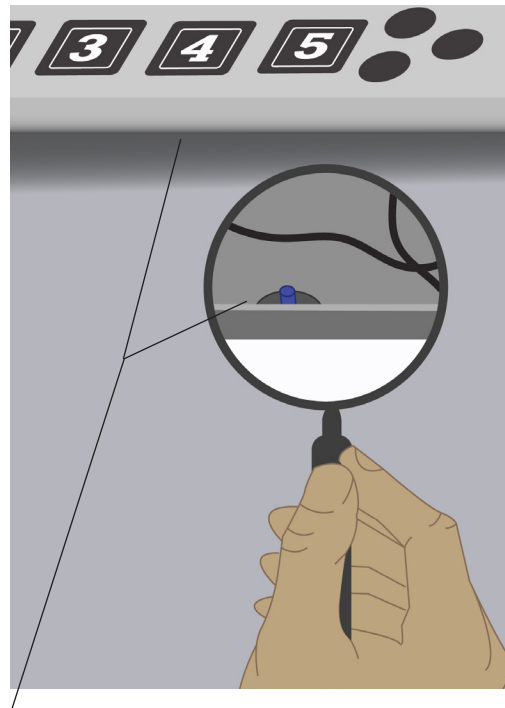

Fig. 15 - Blue button behind key #4. The “Learn” button.
After opening the lower door, reach behind the keypad and you will feel a button behind the number 4 key. You may want to use a small mirror to help you see behind the keypad and locate the small blue button behind the number 4 key (See Fig. 15). This is the “Learn” button.
1. **Press the “Learn” button SIX times.** (Located behind key “4,” see FIG. 15). At first press, the GREEN LED will turn on. For each additional press, GREEN LED will blink.